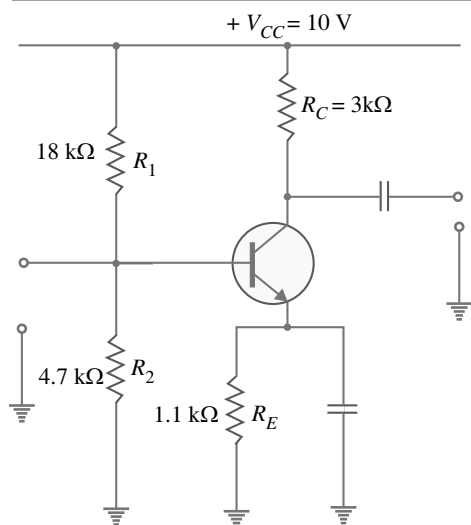

Fig. 7.62
9. Determine whether or not the circuit shown in Fig. 7.62 is midpoint biased.  $[\text{Yes}]$